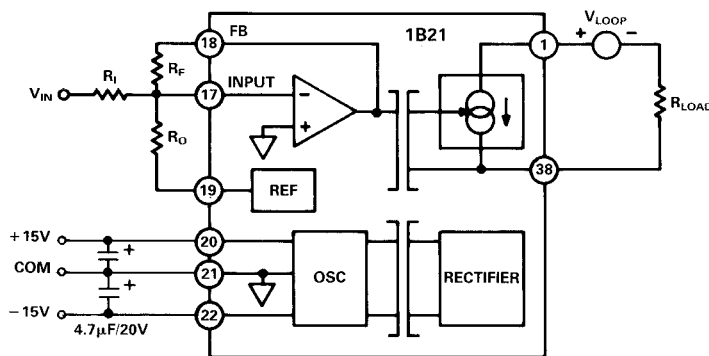

Figure 1. Basic Interconnections
Input Configurations: The 1B21 has been designed with a flexible input stage for a variety of input and output ranges. The basic interconnection for setting gain and offset is shown in Figure 1. The output of the internal amplifier is constrained to 0 to -5V, which maps into 0 to 20mA across the isolation barrier. Thus to create a 4mA offset at the output, the input amplifier has to be offset by 1V.
TC Considerations of External Resistors: The specifications for gain and offset temperature coefficient (TC) for the 1B21 exclude the effects of external components. The total gain TC for the circuit in Figure 1 is: